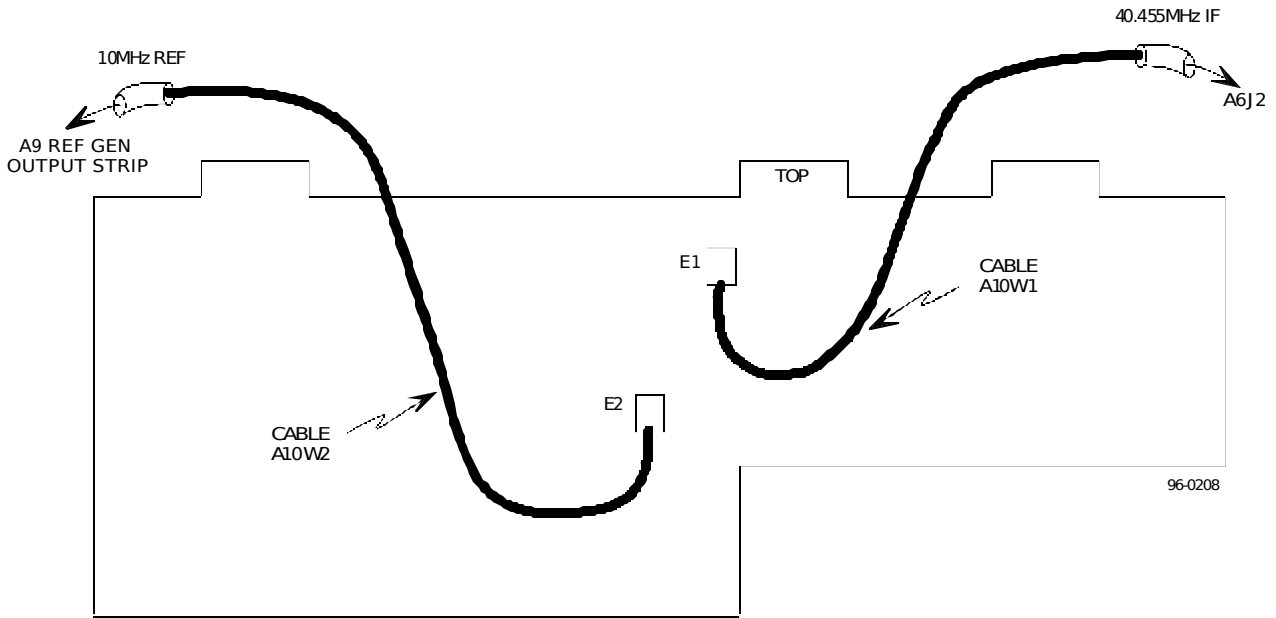

Figure K-6. Type 797325-1 PC Assembly (A10) (Back)
3. Refer to **Figures K-6, K-7, and K-11**, to identify the three coaxial cable assemblies associated with the WJ-8700/XOP5 Option. A10W1 and A10W2 are permanently connected to the A10 printed circuit assembly. Main chassis cable W6 (or W5) is normally plugged onto A6AJ2 (or A6BJ2).
8. Connect A10W1, which carries the 40.455 MHz IF from A6J2. See **Figure K-6**.